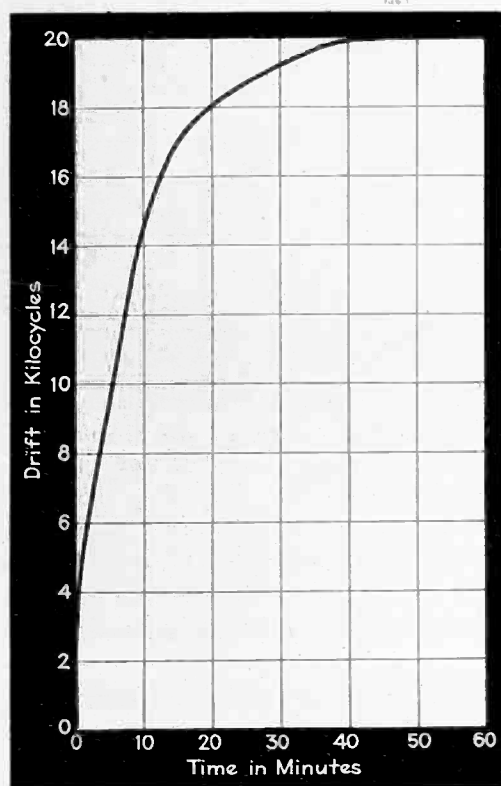

Fig. 4—Drift characteristic of the oscillator used in the four test receivers
3. The drift (Fig. 4) in each of the four receivers is obviously the same since that portion of each receiver is identical.